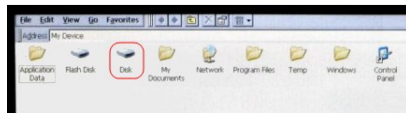

Figure 9.
5. Click and hold the USB drive's icon ("Disk" in Figure 9); in the window that pops up, click "Open".